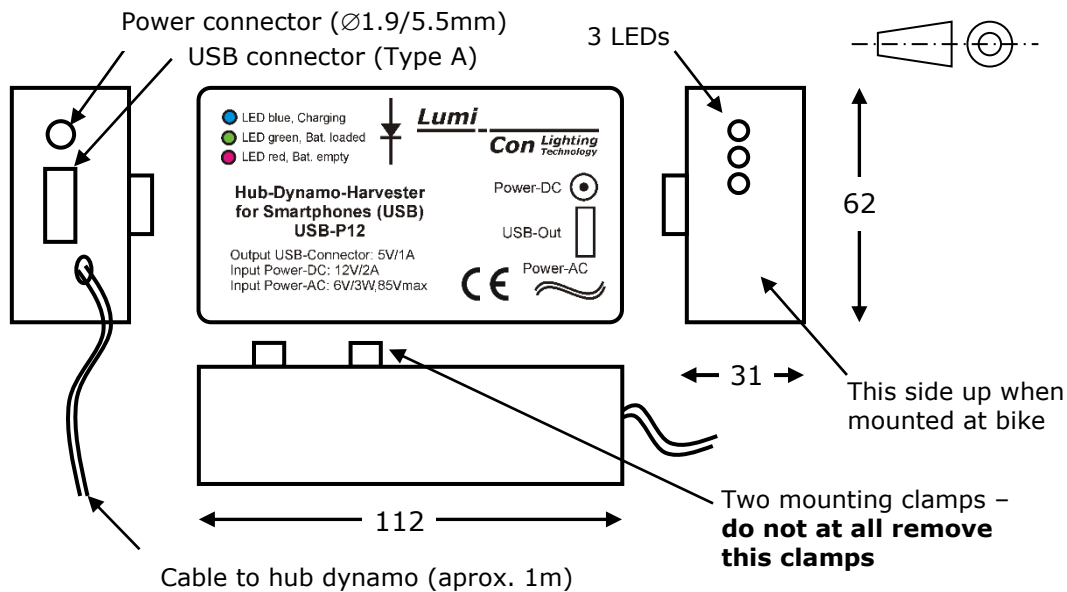

Fig. 5: Dimensions and Interfaces
**Do not at all remove the mounting clamps (fig. 5).**